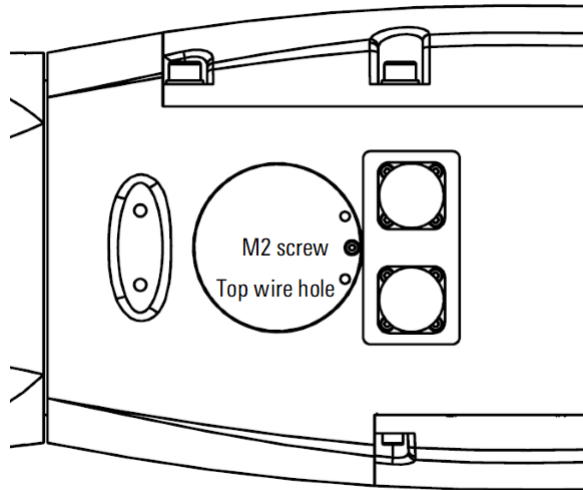

Figure 7-4 AIR8-710A type manipulator arm solenoid valve cover screw and jack hole
- The position of the solenoid valve cover on the arm of the AIR8-710A manipulator is shown in Figure 7-3. Before using the direct air path or the solenoid valve, the solenoid valve cover should be opened, as shown in Figure 7-4. Remove the M2 screw first, then Use the M3 screw to screw into the two top screw holes to lift the solenoid valve cover.